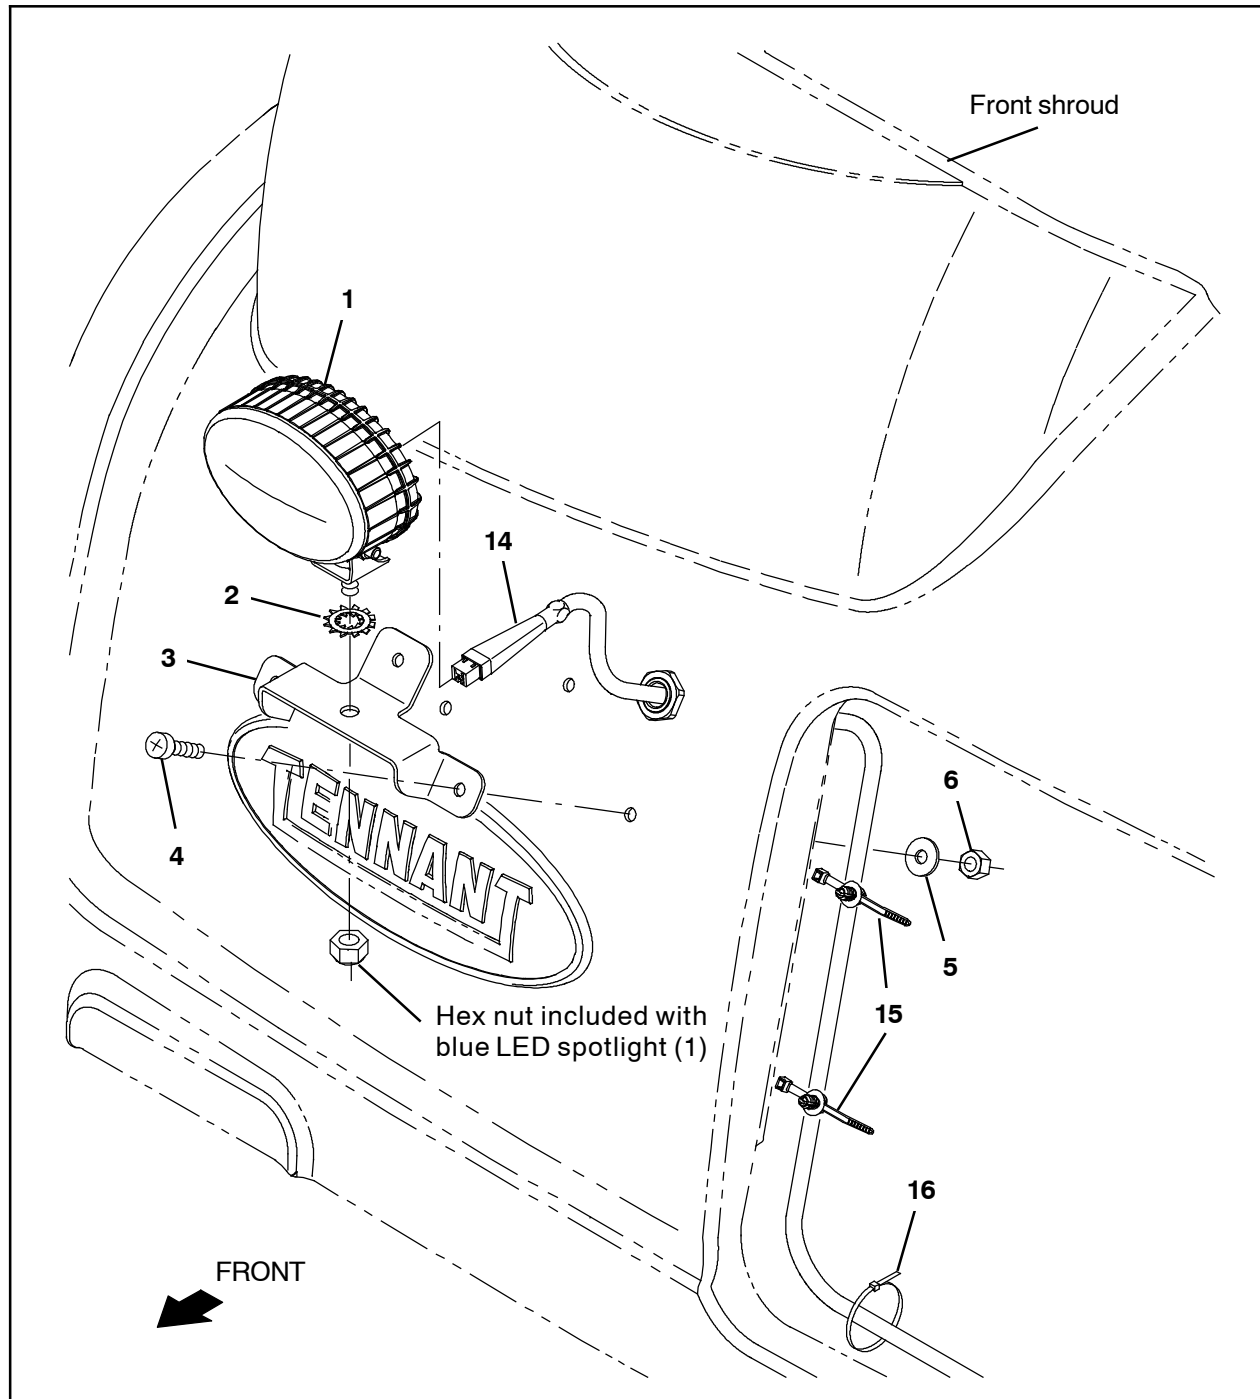

FIG. 8
7. Use three M8 pan screws (4), three M8 fender washers (5), and three M8 hex nuts (6) to install the front cover spotlight mounting bracket (3) onto the front shroud. (Fig. 8)
8. Remove the hex nut included with the blue LED spotlight (1) from the light. (Fig. 8)
9. Use the hex nut removed from the blue LED spotlight (1) in the previous step and a lock washer (2) to install the blue LED spotlight onto the front cover spotlight mounting bracket (3). (Fig. 8)
16.Route the blue spotlight harness (14) to be connected to the blue LED spotlight (1) installed on the front shroud through the 0.906 in. (23 mm) hole previously drilled into the front shroud. (Fig. 8/Fig. 10)